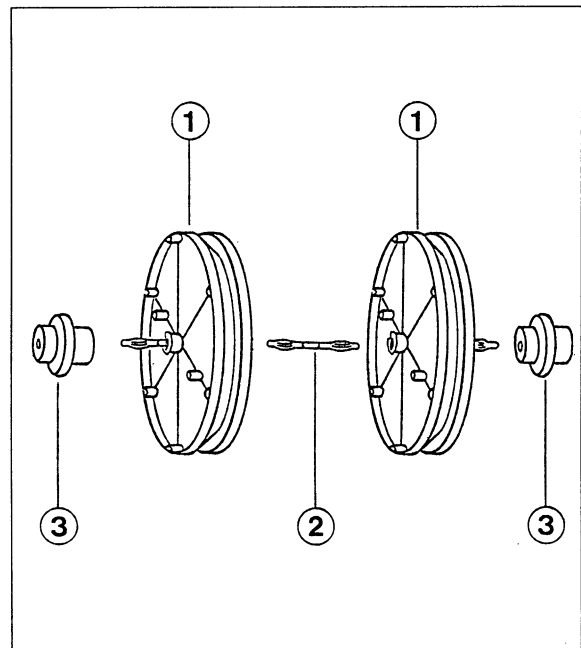

Fig. 2 Plugging together two pulleys (1) using a coupler plug (2), (3) weight
- ▶ Fig. 2
- You attach the weights (3) at a later stage.
- Attach the two weights to the pulleys' axes. ► Fig. 2.